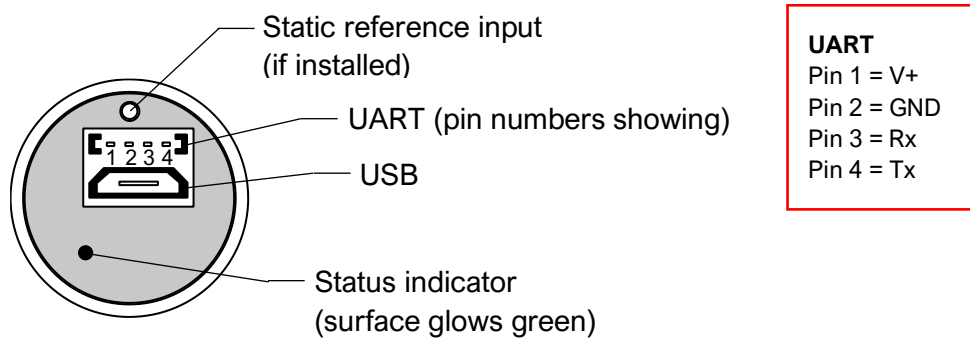

Figure 3: connector interface and pin assignment
Comms port: This is the serial communications connection. There are four pins: V+ (1), GND (2), Rx (3) and Tx (4), where pin 1 is on the left when the probe is oriented such that the serial port is above the micro-USB port (see figure 3).